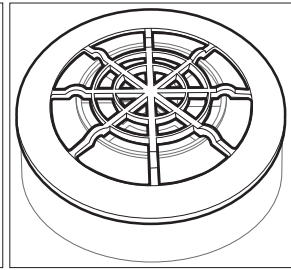

Figure 3
- a. Place the spider (P/N N750038) on the cartridge so the eight indented notches nestle on the inner raised circle and the P/N N750038 is not backwards. (Figure 3).